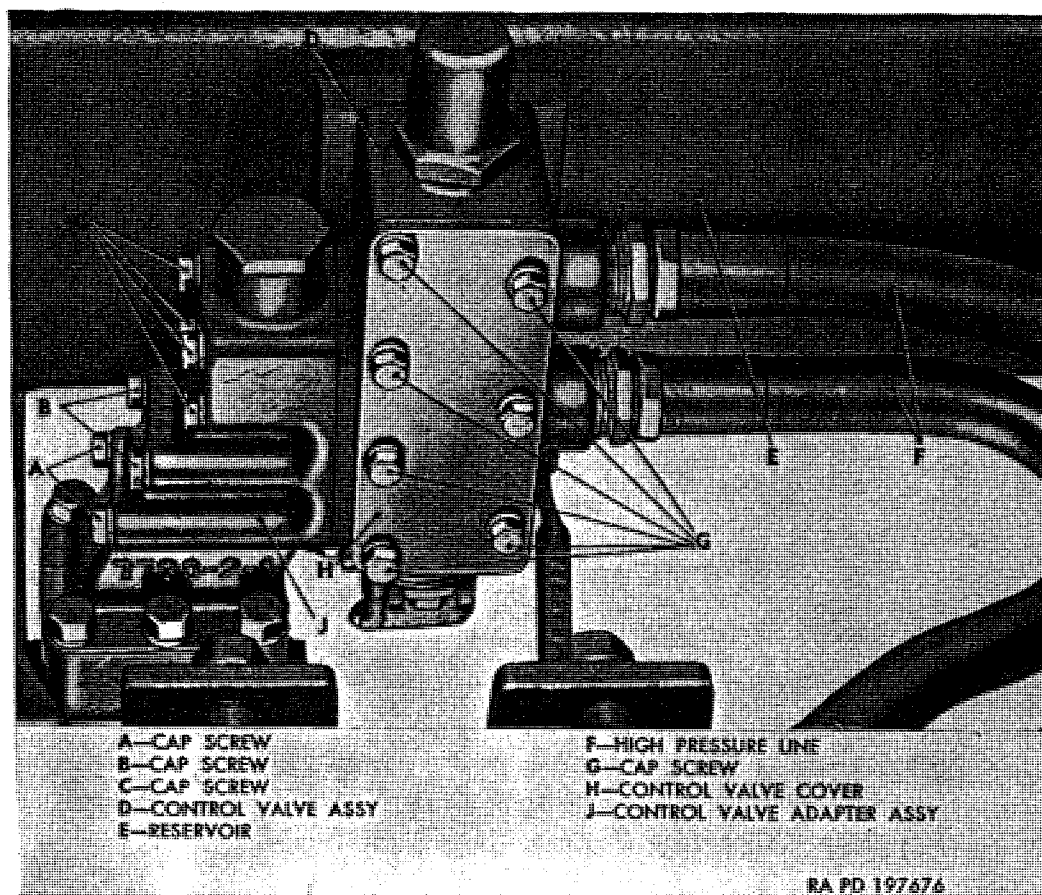
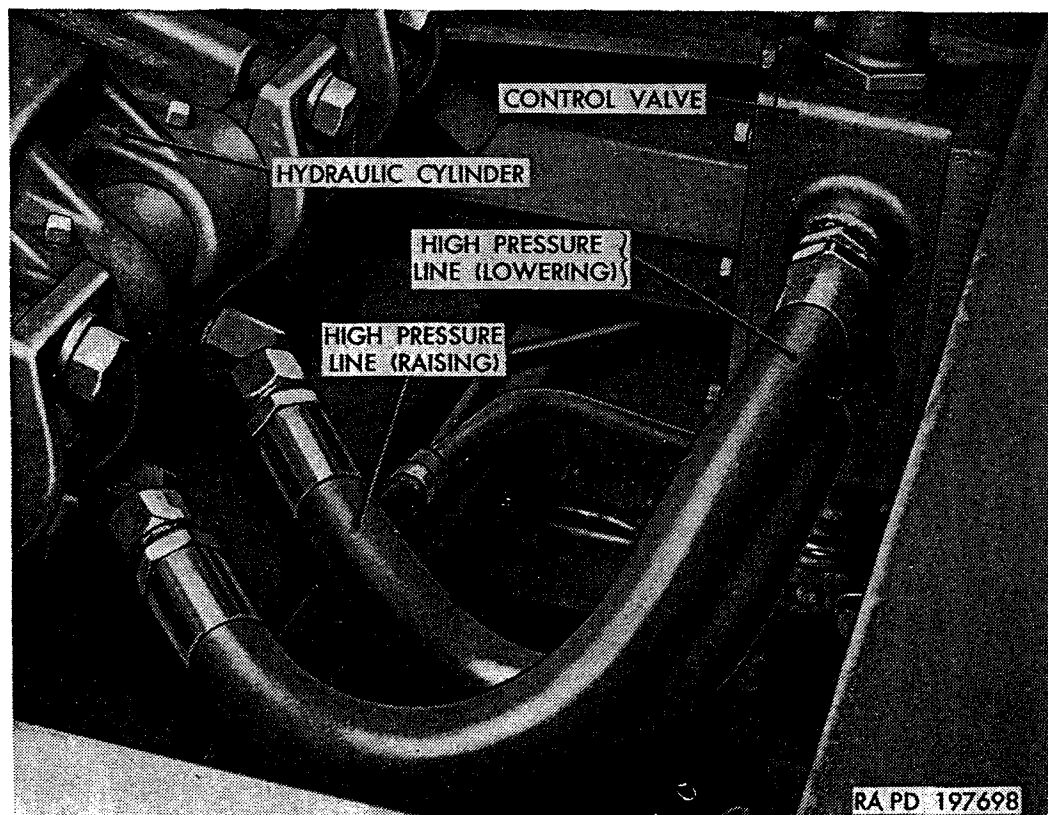

Figure 358. Control valve and valve adapter mounting.
Figure 359. Fluid pressure lines installed.
(fig. 358)
a. General. Control valve adapted assembly is mounted between control valve and crossover adapter as shown in figure 358. Adapter provides a means for fluid passage between control valve and crossover adapter.
- (1) Remove hoist pump (par. 331*b*).
- (2) Remove crossover adapter (par. 332*b*).
a. General. Control valve assembly (D, fig. 358) is mounted on fluid reservoir at front of subframe. Control valve assembly contains a spool-type valve which is operated by linkage to control fluid as necessary to raise, lower, or hold dump body.
- (1) *Raise body.* Operate body hoist and raise body until safety braces can be installed (par. 51d).
- (2) *Drain fluid.* Drain fluid from reservoir (par. 325c).
- (3) *Remove high pressure lines* (fig. 359). Remove two high pressure lines from fittings at base of hydraulic cylinder, then remove both lines from control valve.
- (4) *Remove pump and adapters* (fig. 358). Remove drive shaft from pump shaft (par. 331b(2)). Remove eight cap screws (A, B, and C) and lockwashers attaching adapter to control valve assembly; then remove pump, crossover adapter, and control valve adapter as an assembly. Remove and discard gasket.
- (6) *Remove control valve* (fig. 358). Remove seven cap screws (G) attaching control valve assembly (D) to reservoir (E). Remove control valve cover (H) and control valve assembly. Remove and discard gaskets used between cover and valve, and between valve and reservoir.
- (1) *Install control valve* (fig. 358). Position a new gasket at each side of control valve body; then position control valve cover (H) to valve body. Hold gaskets and cover by installing seven $\frac{3}{8}$ -24 x 4 cap screws (G) through valve body.
- Position control valve assembly (D) to reservoir (E); then tighten cap screws evenly and alternately.
- (3) *Install pump and adapters* (fig. 358). Position pump and adapter assembly to control valve assembly, using new gasket. Install four $\frac{3}{8}$ -16 x $4\frac{1}{4}$ cap screws (C), two $\frac{3}{8}$ -16 x $3\frac{1}{4}$ cap screws (B), and two $\frac{3}{8}$ -16 x $2\frac{3}{4}$ cap screws (A), using one $\frac{3}{8}$ -inch lockwasher with each cap screw. Tighten cap screws alternately and evenly.
- (4) *Install high pressure lines* (fig. 359). Attach high pressure lines to openings in control valve and tighten. Attach lower line at control valve to left opening in cylinder, and attach upper line at control valve to right opening in cylinder. Tighten lines to prevent fluid leaks.
- (5) *Fill fluid reservoir*. Fill fluid reservoir as instructed in paragraph 325d.
- (6) *Lower body*. Lower body (par. 51b).